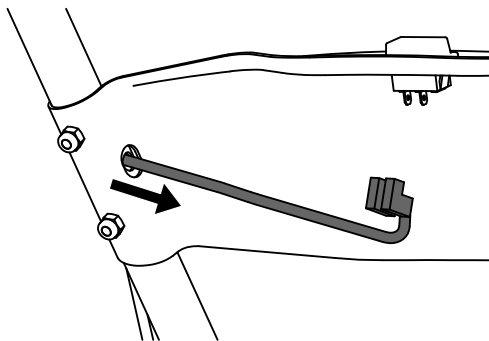

Figure 11
- Bolt—M8 x 40 mm (2)
- Nut—M8 (2)
2. Install the middle dash panel. Route the engine switch cable through the hole on the left side of the panel as shown in Figure 11.